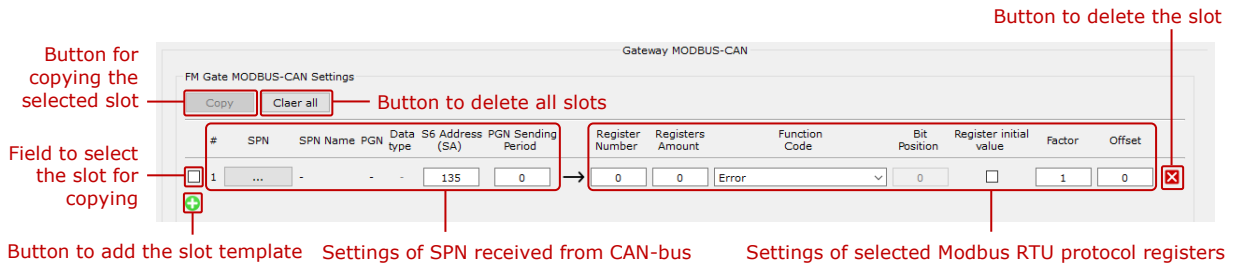

Figure 24 — Slot template for data conversion from SPN into Modbus RTU registers
1) In the left portion of each slot (before \rightarrow character) there are settings of SPN received from the onboard CAN-bus or from Units of CAN j1939/S6 Telematics interface (see figure 24):
- By pressing button, select the required SPN which is to be converted into data of RS-485 interface from S6 Database (see figure 24). For your convenience, search the SPN by the SPN number or name entered into the search bar of **Select SPN/PGN** window. Highlight the PGN in which the required SPN will be received and confirm its selection by pressing button. After that, both the number, and the name of the selected SPN as well as the PGN number (SPN 521150) and data type (SPN 521462) will be displayed in the slot.
- In case the data type of the selected SPN does not match the code of "Reading coil registers (01)" function or "Reading discrete inputs (02)" function, we recommend to select SPN only with whole numbers values (factor coefficient — 1).
- For values of SPN that are less than 8 bits long, you need to specify the function codes "Reading coil registers (01)" or "Reading discrete inputs (02)"; otherwise the notification of incompatibility will be displayed.
- The field **S6 Address (SA)** (SPN 521188) serves to specify the unique network address of CAN j1939/S6 Telematics interface Unit or the device on the onboard CAN-bus which generates the selected SPN or for which the request for reading the selected SPN is needed. The network address may be specified from 0...250 or 255 range (by default — **135**). If the address 255 is specified, the data may be received from any device of CAN-bus.
2) In the right portion of the slot template (after the character ) there are settings of Modbus RTU register of the converter into which the converted SPN must be saved (see figure 24):